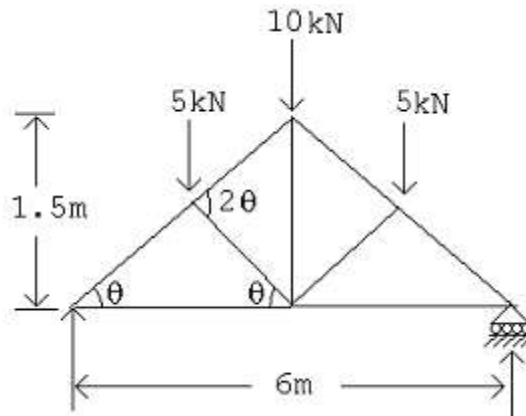

Figure: 1
2. Design the compression member carrying maximum force and the tension member carrying minimum force for the roof-truss shown in Figure 1. [24]